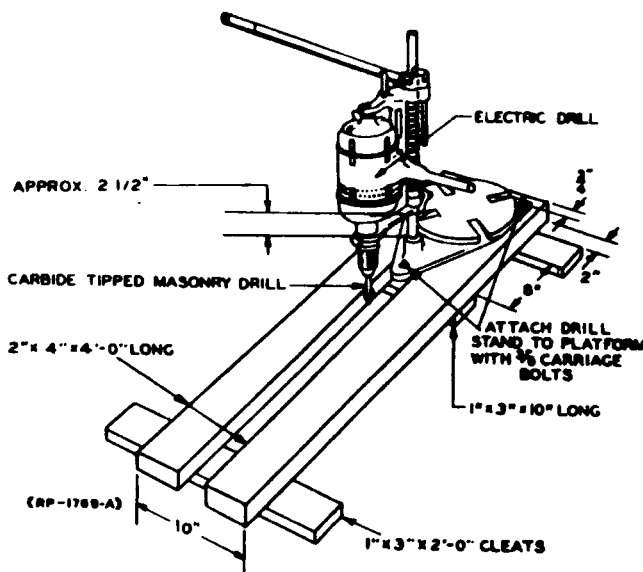

FIG. 4 USE OF DRILL STAND FOR DRILLING CONCRETE FLOORS USING CARBIDE TIPPED DRILLS (PAR. 4.34)
4.34 A convenient method of applying pressure to the electric drill is shown in Figure 4. The drill stand is mounted on a platform and two men are used for the drilling operation, one to stand on the base of the stand to aid in holding the assembly down, and the other to stand on the platform and operate the lever.